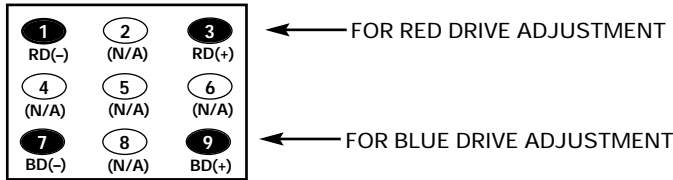

Figure 2.
**Red/Blue Drive Adjustments in Service Menu NO. AF DRV:** Adjust Red and Blue Drive Levels alternately with 1, 3, 7, and 9 keys on the remote control. (See Figure 2.) The Drive Level adjustment data will be written in the Service Menu No. 4A RD and 4C BD automatically.